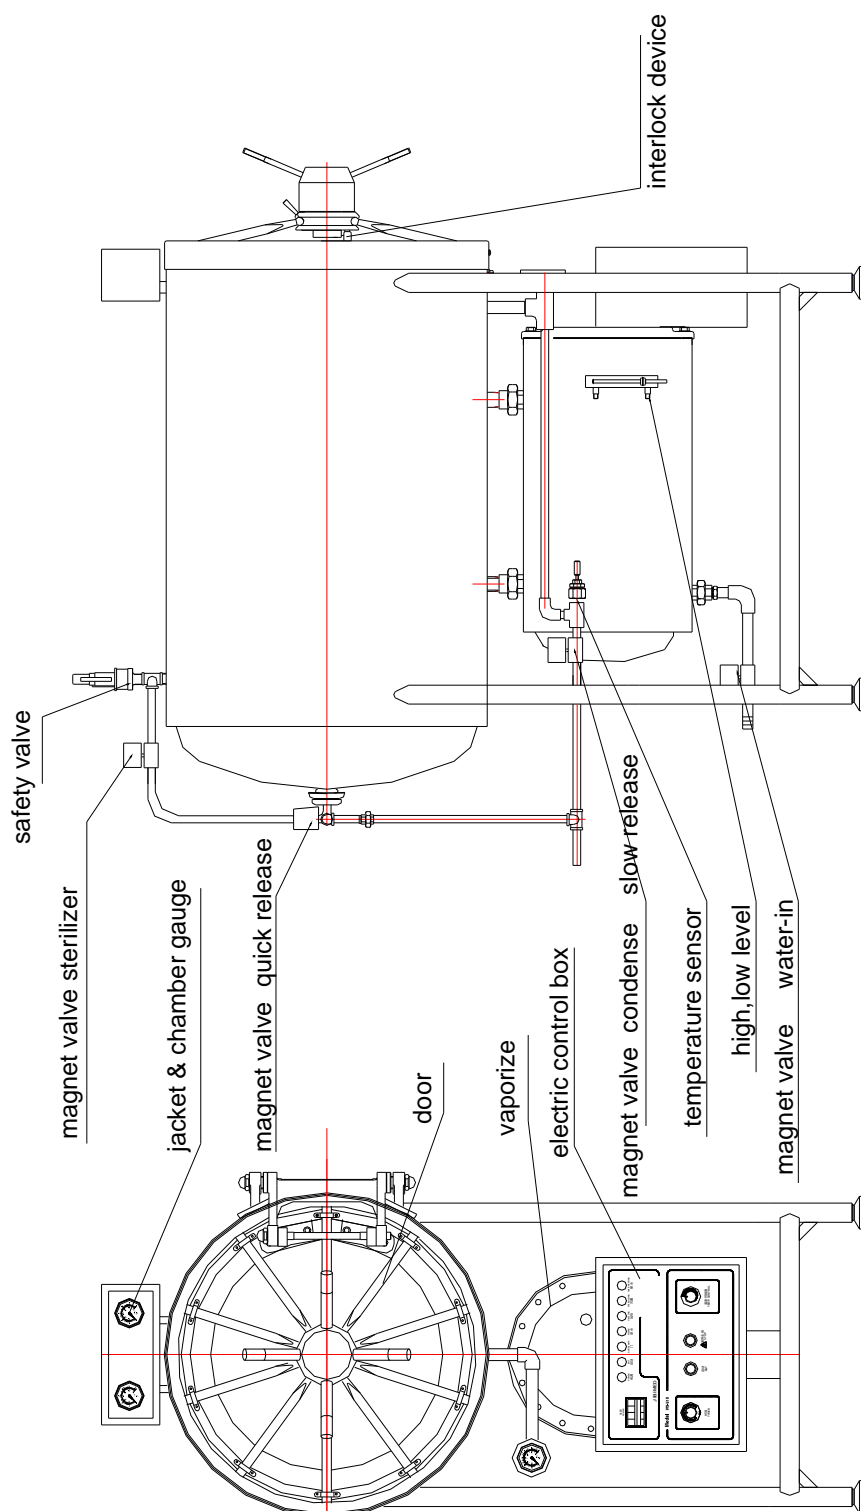

Fig3
- 1 for installation. More floor space around the sterilizer is set aside for operating and repairing. The Min. Installation size for single door $200 \times 93 \times 182\text{cm}$, for double doors $200 \times 93 \times 182\text{cm}$. (see fig.3)